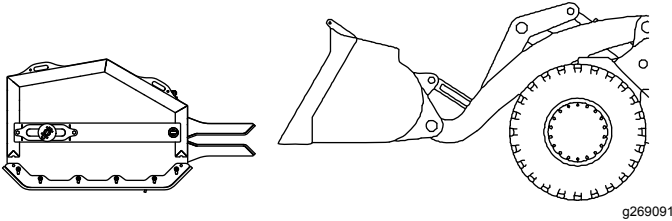

Figure 13
1. Slowly drive the vehicle toward the plow, level the bucket, and adjust the bucket height (Figure 13).
2. Slide the bucket between the attachment forks until it reaches the back of the forks (Figure 13).